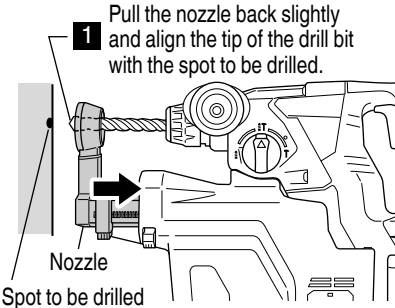

Fig. 10
4. Drilling (Fig. 10, 11, 12)
- (1) Grasp the nozzle with your hand and pull it back slightly, and align the tip of the drill bit with the spot to be drilled. (Fig. 10)